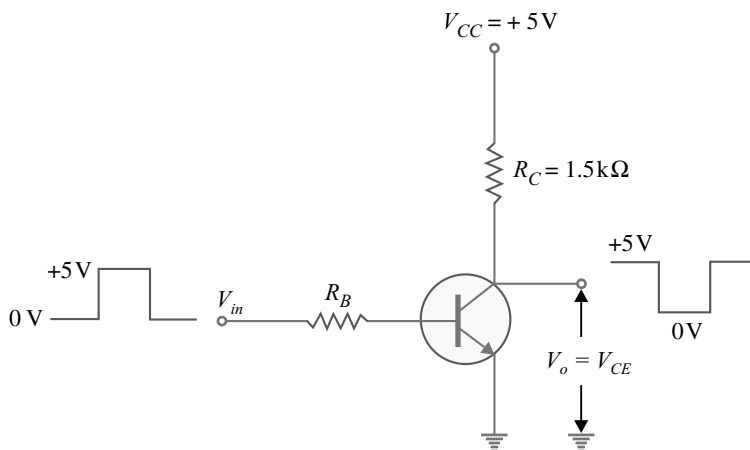

Fig. 16.13
**Example 16.6.** Design the transistor inverter shown in Fig. 16.13 so that it will operate satisfactorily with silicon transistors whose  $\beta$ -values range from 80 to 200. Assume  $V_{CE(\text{sat})} = 0 \text{ V}$ .